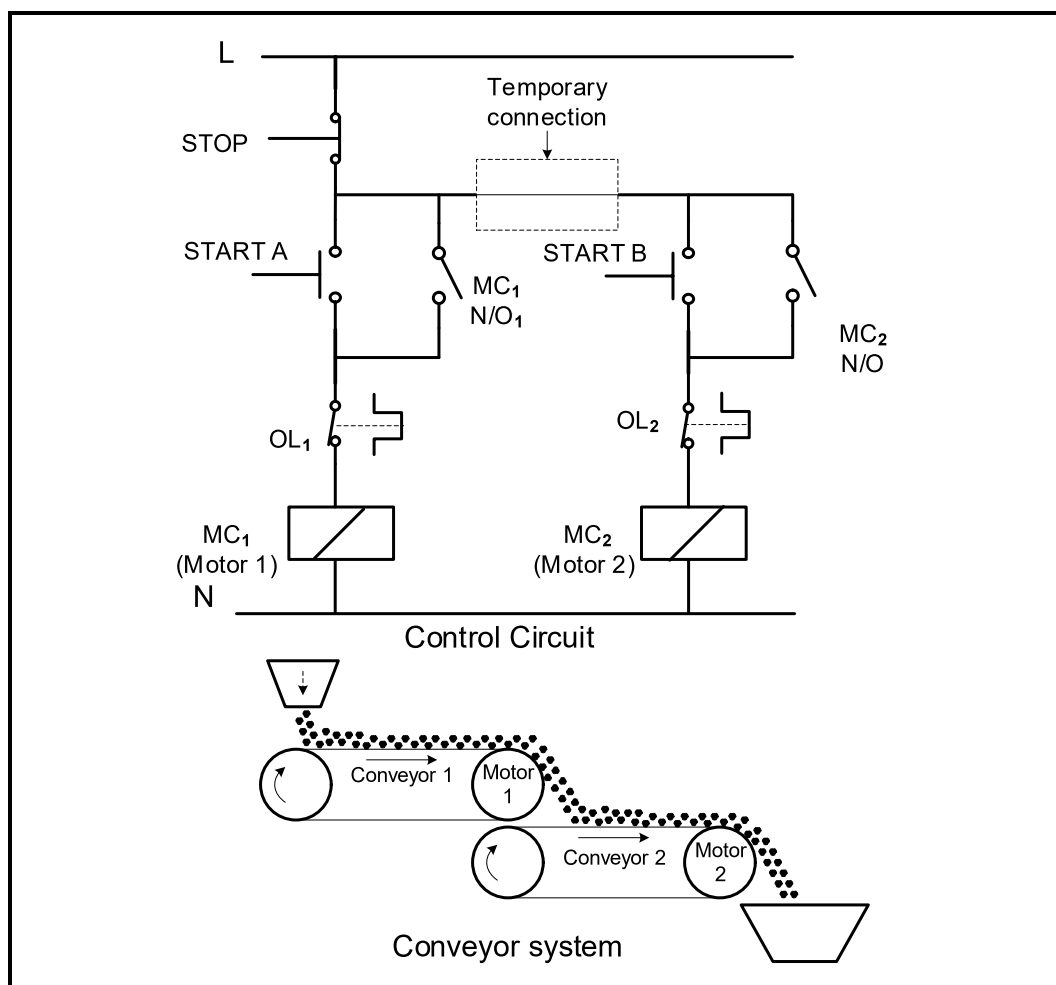

FIGURE 6.5: MOTOR STARTER CONTROL CIRCUIT AND CONVEYOR SYSTEM
- 6.5 Refer to FIGURE 6.5 below and answer the questions that follow.
- 6.5.1 Identify the motor starter control circuit in FIGURE 6.5 above. (1)
- 6.5.4 Explain the disadvantage of connecting the overloads as shown in the control circuit in FIGURE 6.5 when MC₁ and MC₂ are controlling the two motors on the conveyor belt system. (3)